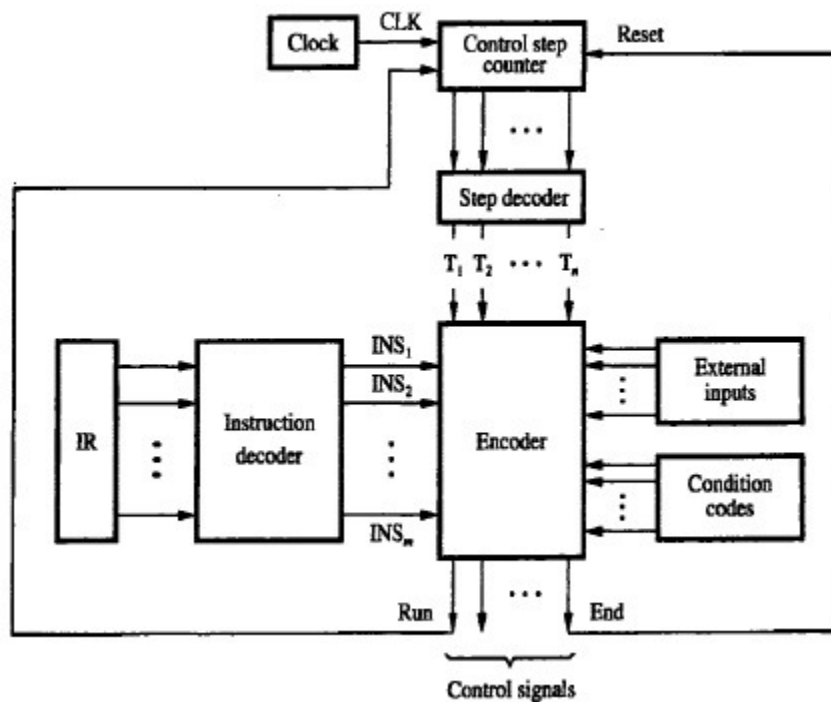

Figure 3.11 Separation of the decoding and encoding function
- Hardwired control is a method of control unit design (Figure 3.11).